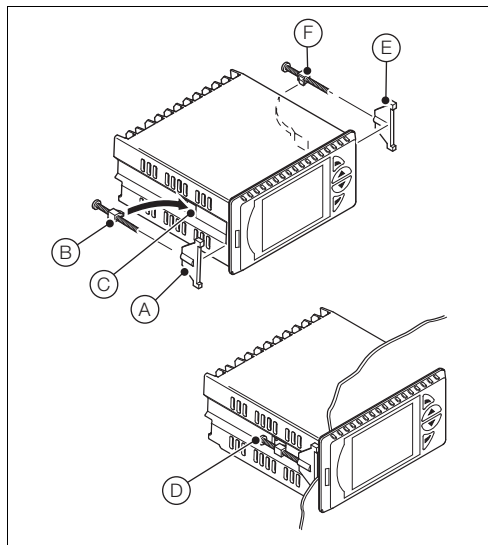

Fig. 4.4 Mounting Details
3. Referring to Fig. 4.4:
- a. Position the upper panel clamp (A) at the top front of the case against the panel.
- b. Locate the panel clamp anchor (B) in slot (C).
- c. Tighten the panel clamp anchor screw (D) until panel clamp (A) is secured against the panel.
- d. Repeat steps 3 to 5 to fit the lower panel clamp (E) and panel clamp anchor (F).